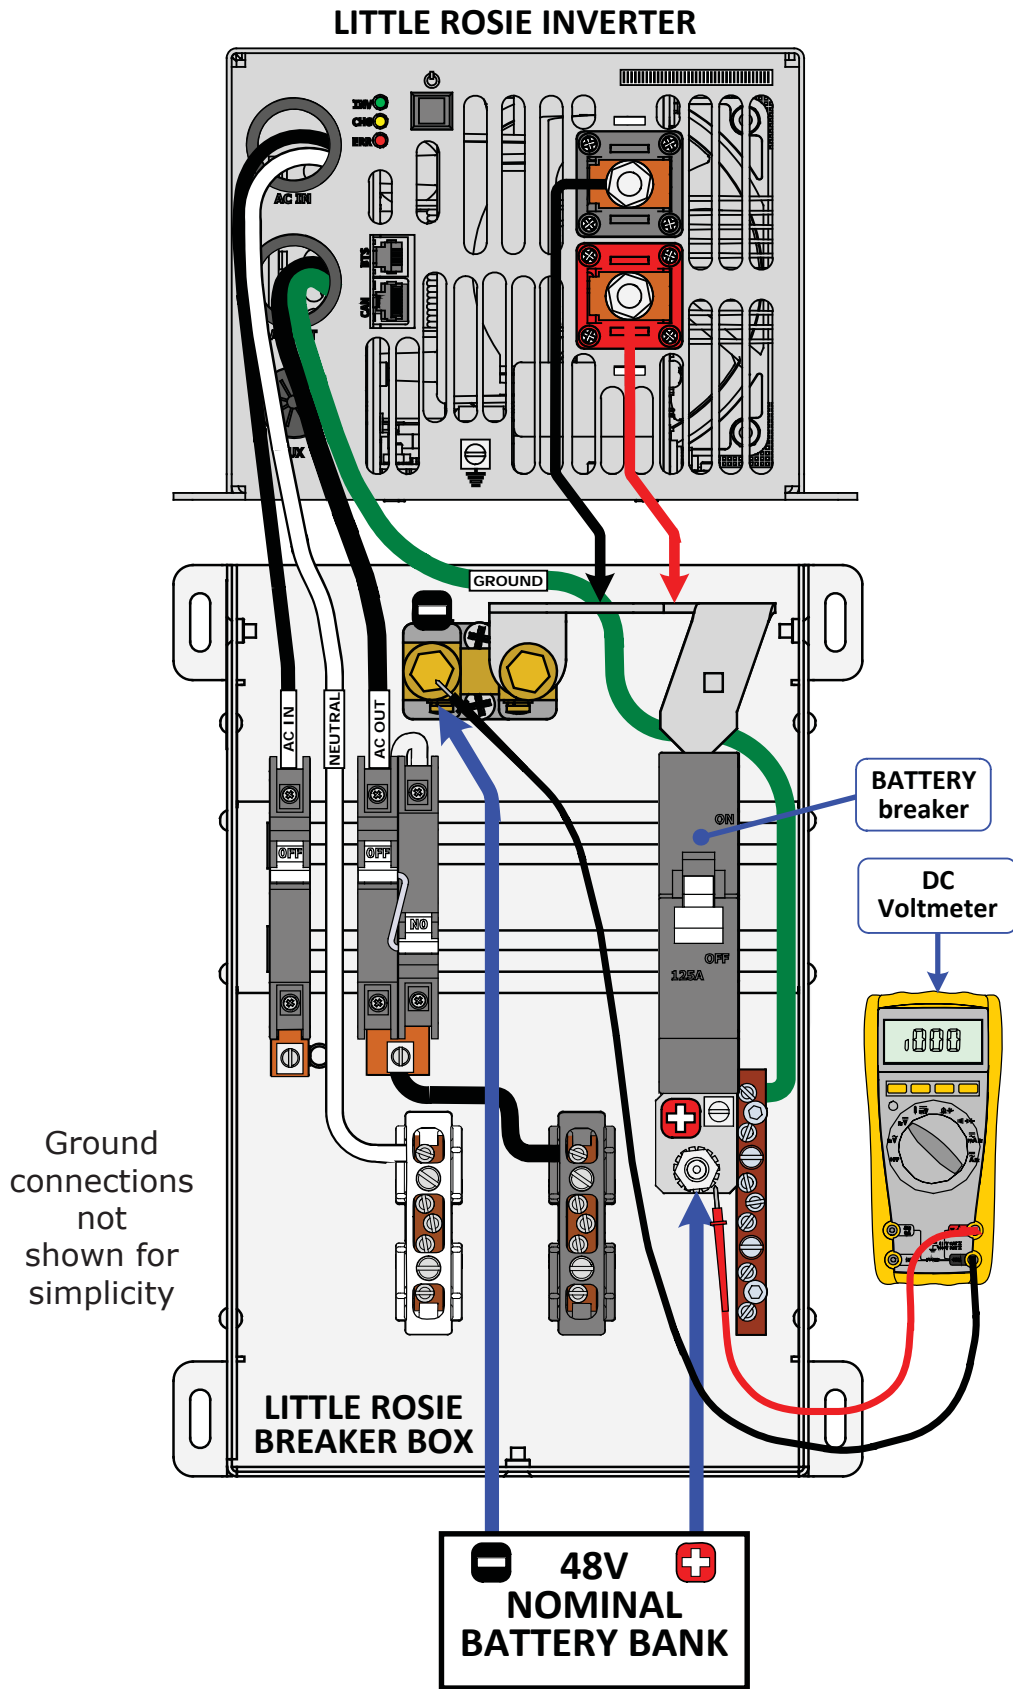

Figure 2-7, DC Voltage Check
Once all electrical connections from the LR-BB enclosure to the inverter, batteries, AC source, and sub-panel have been completed, follow these steps (refer to Figures 2-7 and 2-8) to test the LR-BB enclosure installation and verify the proper operation of the BYPASS switch breakers.
2. Use a DC voltmeter and place the negative (-) probe on the side of the DC shunt; then place the positive (+) probe at the bottom of the **BATTERY** breaker (see Figure 2-7). Verify the battery voltage is positive and within the range of 45 to 55 VDC.